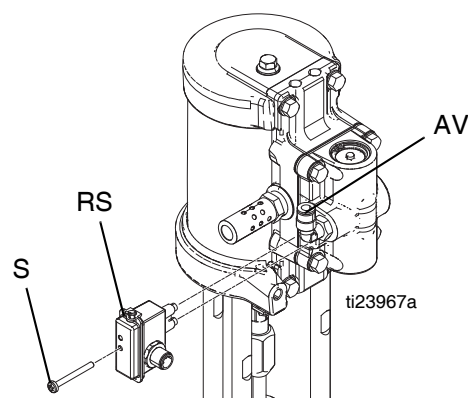

FIG. 4: Reed Switch Assembly and Air Line Removal
3. **For motors with DataTrak:** See FIG. 4. Remove screw (S) to disconnect the reed switch (RS) from the air valve (AV).
1. **For motors with DataTrak:** Remove the screw to disconnect the reed switch from the air valve. See FIG. 4, page 13.